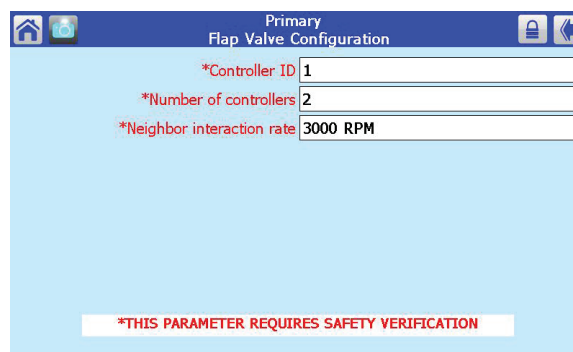

Fig. 71 – Flap Valve Configuration Screen
- Scroll through the listing on the Configure menu to Flap Valve Configuration, and select that line. See Fig. 71.